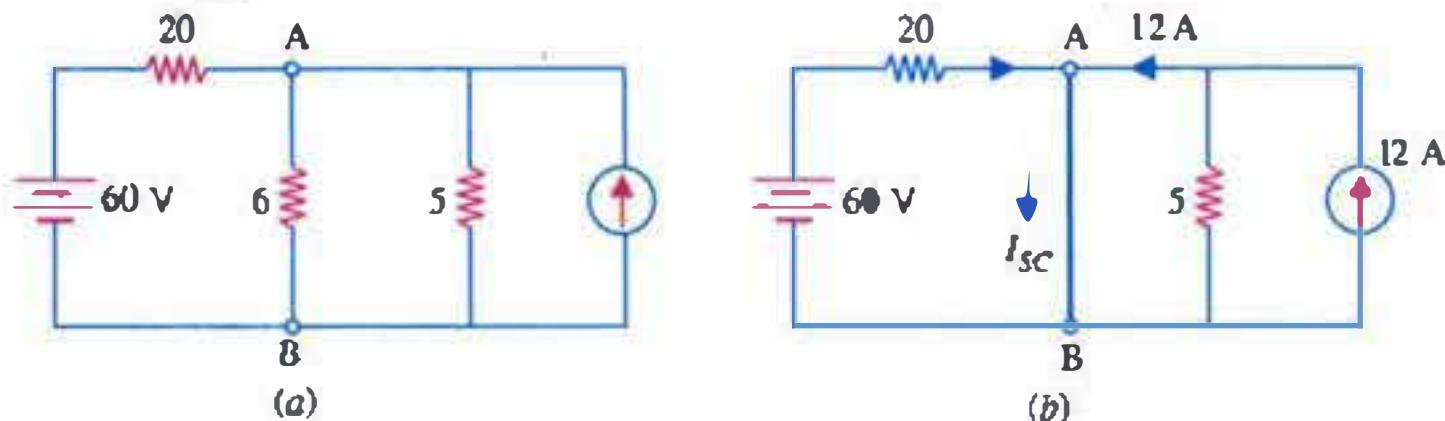

Fig. 4.20
**Example 4.6.** The circuit of Fig. 4.20 (a) is excited by a voltage source and a current source. Using Norton's theorem, calculate current through the  $6 \Omega$  resistor.
**Solution.** In Fig. 4.20 (b),  $6 \Omega$  resistor has been removed and a short placed across terminals A and B. Short-circuit current  $I_{SC}$  (or  $I_N$ ) is